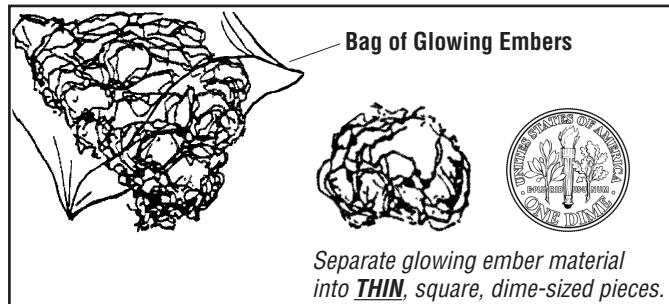

Figure 37 - Preparation of Glowing Ember Material
a) Separate some of the glowing ember material into pieces **about the size and thickness of a dime** (see **Figure 37**). Keep the pieces fluffed up, not matted.